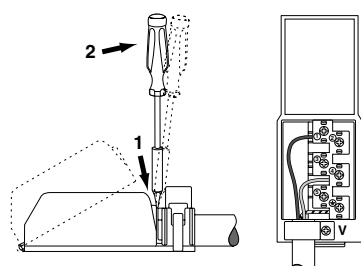

Fig.11
- Loosen the cable clamp screw "V" and the wire contact screws (fig. 11).